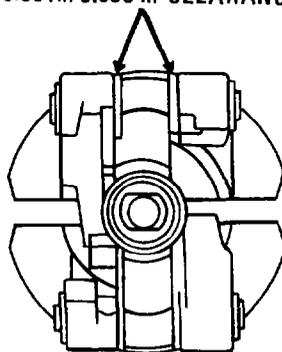

Fig. 130 — Positioning Shims
- e. Position the weights (item 84) on the weight shaft spider (item 81) and install shims (item 83) as shown in fig. 130. Check for a clearance of 0.025 – 0.152 mm (0.001 – 0.006 in.) between the